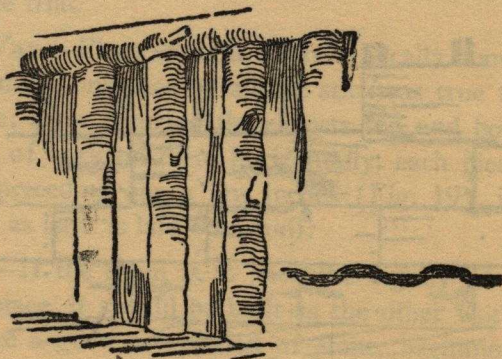

FIG. 17.
*A Third Way.*—Use slabs (Fig. 17). These are usually wasted or sold for fuel by the mills. Place them vertically and alternately, as shown in the sketch, and nail firmly at top and bottom and to each other.